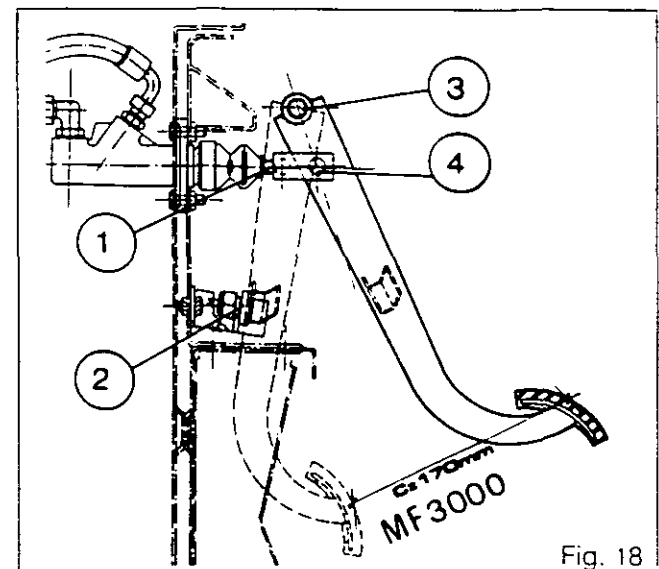

Fig. 18
Before assembly coat the pins (3) and (4) with molybdenum disulphide grease. Coat the threads of the rod (1) (Fig. 18) with Loctite 542. Adjust the rod to obtain a pedal travel of 170 mm between the disengaged position (pedal up against the stop (2)) and the engaged position.